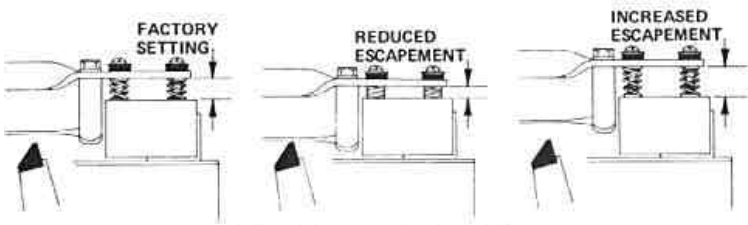

Figure 4-4. Adjustment Location 1
- a. Each of the Tone Bar Assemblies is separated from the Tone Bar Rail by two adjustable coil Springs. By means of these, the height of each Tone Bar Assembly can be raised to 1/2" (12.700mm) or lowered to 3/16" (4.762mm) - factory setting is 3/8" (9.525mm). From Figure 4-4 it can be observed that this adjustment increases or decreases the Escapement Distance.